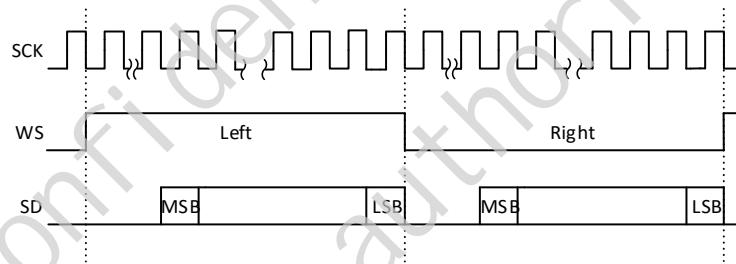

Fig 22-9 Right-justified standard
- Serial data are right justified. See Fig 22-9.